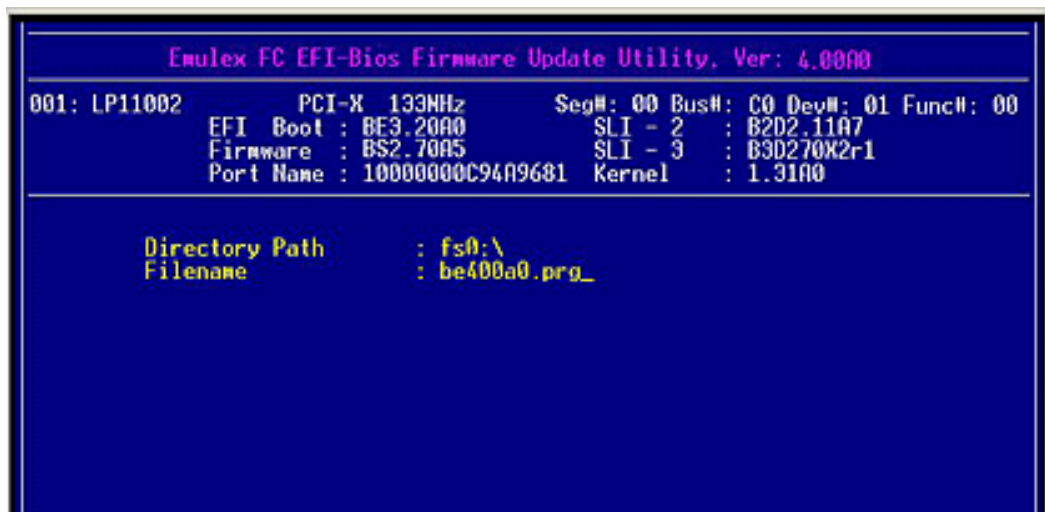

Figure 6-40 Directory Path and Filename Information
3. Enter the directory path and filename in the screen that is displayed (Figure 6-40). Press **<Enter>**.